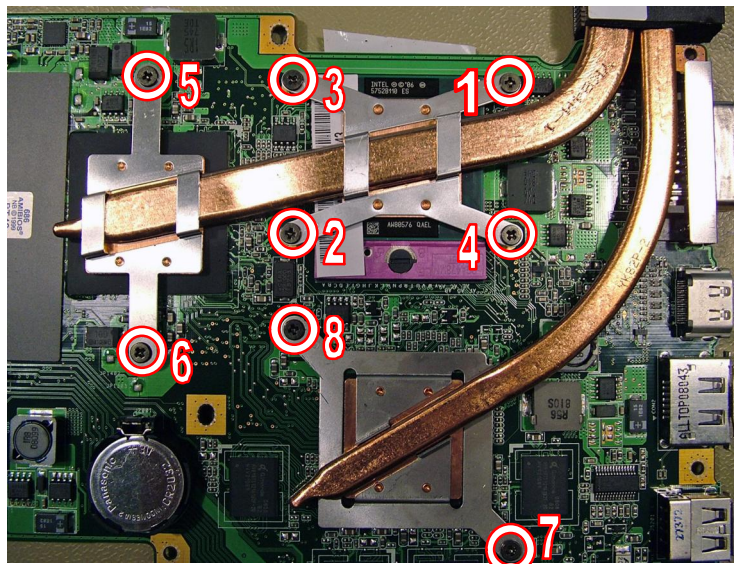

Fig. 31 Location of CPU heat sink screws.
2. Now turn the screws completely loose, again in designated order, and remove them (see Fig. 31 on page 18).